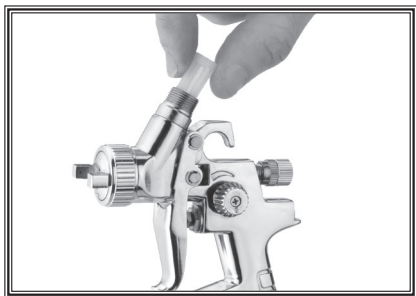

Figure 3. Installing filter.
1. Insert the filter into the gun body (see Figure 3).